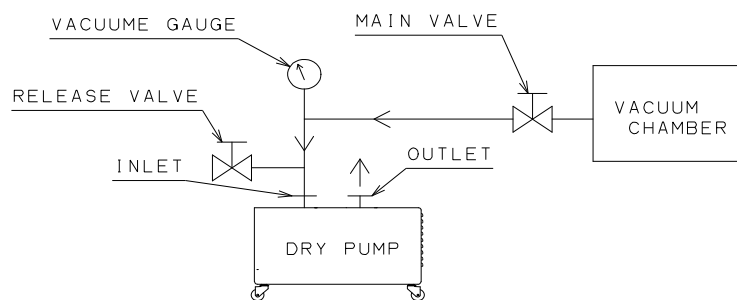

Fig. 4 Typical pump layout
- F) Install an isolation valve (Main Valve) between equipment and this pump, to prevent backflow of air to the equipment when pump stopped.(Refer to Fig. 4)
- G) Install a vent valve between isolation valve (Main valve) and pump, if gas inside of pump needs to be replaced with outside air or dried up when pump stopped. (Refer to Fig. 4)
- (1) Should the Pump sucked the water or substance such as dust, powder and so on, it would impair the ultimate pressure and further cause a trouble.**
- (2) Metal mesh on the Suction inlet is put to keep large foreign substances such as bolt away from the Pump unit. Be sure not to take it off unless necessitated so to check it. Contact the nearby service center when if drop foreign substance (ex. bolt) into the inlet at the pump, and if suction of foreign substance (ex. solid or powder smaller than metal mesh), since it is necessary to disassemble the pump to remove. May the pump stops when driving as it is.**
- (3) Be careful not to damage O-ring seat surface. Do leak test of the entire system after assembly of the piping. (Do not pressurize greater than 50KPaG to the pump)**